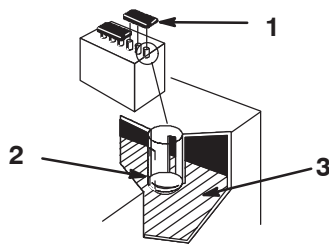

Figure 50
1. Open covers to see into the cells. The electrolyte must be up to the lower part of the tube (Fig. 50).
Important Do not allow the electrolyte to get below the plates. (Fig. 50).
2. Lift off the filler caps (Fig. 50).
3. Slowly pour distilled water into each battery cell until the level is up to the lower part of the tube (Fig. 50).